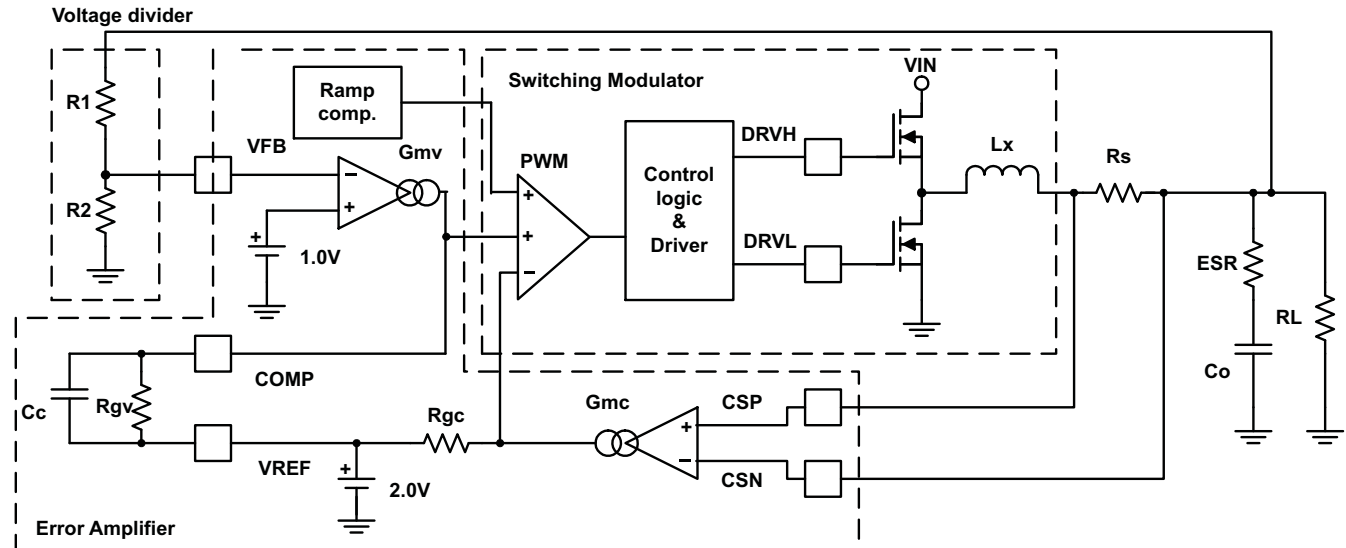
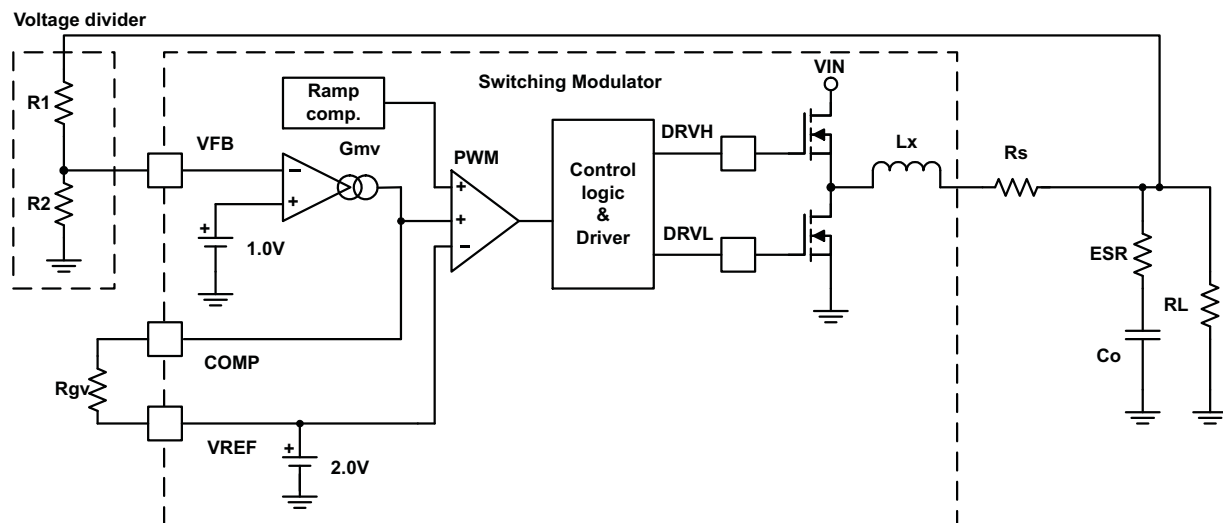

Figure 44. Simplified Current Mode Functional Blocks
Figure 45. Simplified D-CAP Mode Functional Blocks
A buck converter using the TPS51220A consists of linear circuits and a switching modulator. Figure 44 and Figure 45 show basic scheme.
1. **Determine output voltage dividing resistors.** (R1 and R2: shown in Figure 44) using Equation 7 .